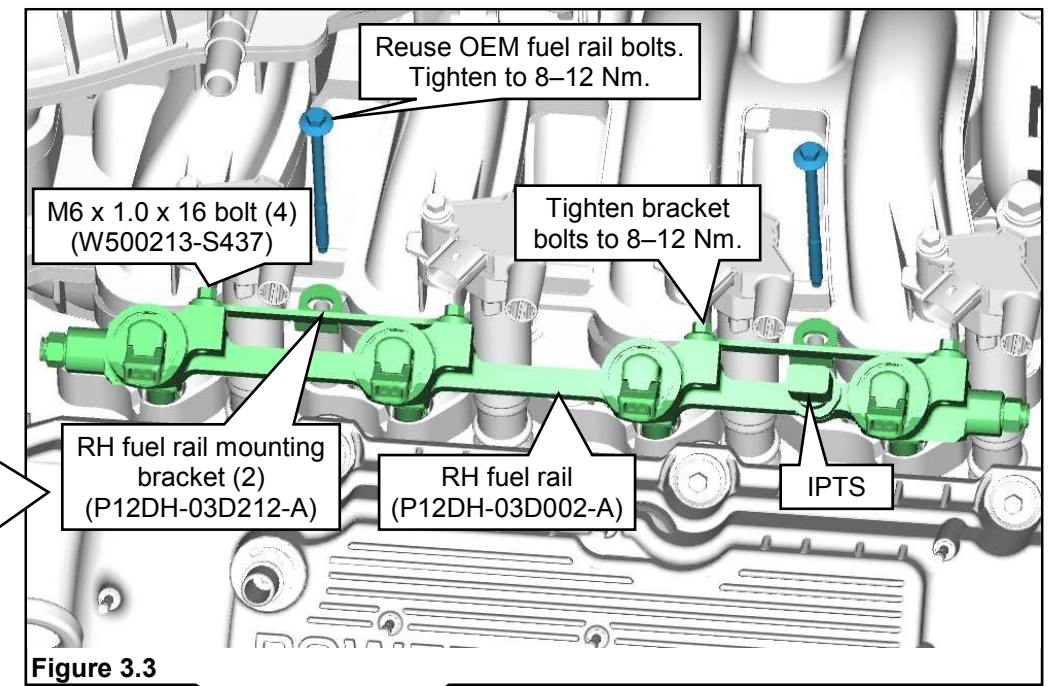

Figure 3.3
6. Repeat Step 4-5 to install the RH fuel rail assembly on the passenger side of the intake manifold. **Figure 3.3.**